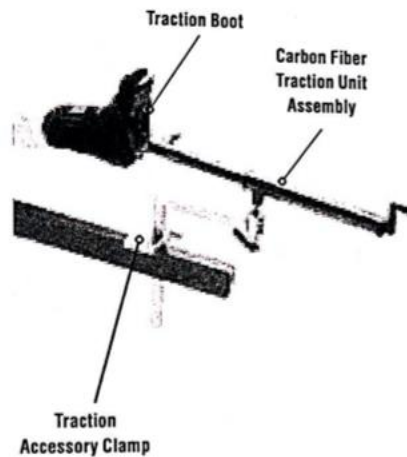

Figure 3-5. Typical Carbon Fiber Traction Unit Setup
- c. Position Carbon Fiber Traction Unit at optimum distance distally PRIOR TO APPLYING TRACTION. Support opposite anatomy and secure (see Figure 3-5).